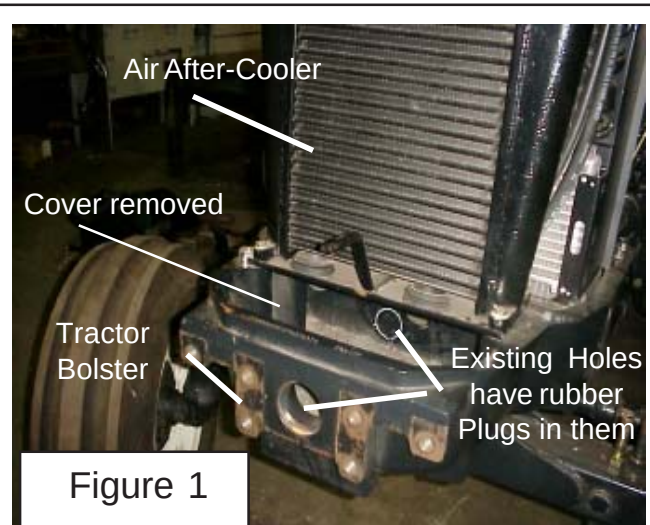

Figure 1
1. With Front Bolster as shown (See Figure 1), Remove any plastic plugs that are located in the threaded holes in the front and discard them, they will not be needed. The Casting will have two Driveline Hole in it. (See Figure 1).